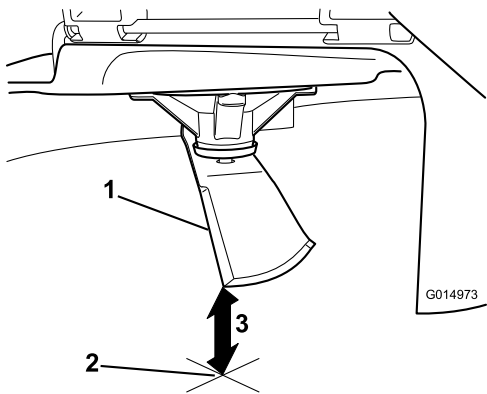

**Figure 57**
4. Rotate the same blade 180 degrees so that the opposing cutting edge is now in the same position (Figure 57).